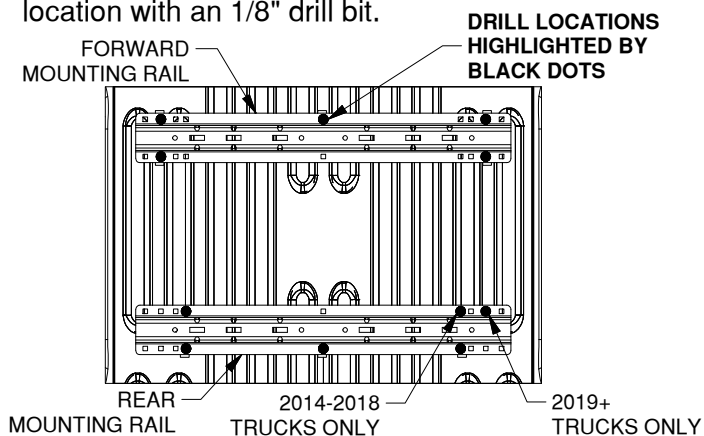

Figure A3: Detail view over bed, showing drill locations for the forward and rear mounting rails.
- 2. Mark hole locations.** While carefully ensuring the mounting rail does not move, use a center punch tool to mark the 5 drill locations on the forward rail. See Figure A3 for hole marking locations for this installation (rear rails will install on a later step). Once all 5 forward rail locations are clearly marked, move the mounting rail out of the way and drill each location with an 1/8" drill bit.
2. **Drill rear rail mounting holes.** Using the same method as used for the forward mounting rail, mark and drill the 1/8" holes for the rear mounting rail. Refer to "DRILL FORWARD MOUNTING HOLES" section, Step 2, page 2. Notice that the hole locations are slightly different than the forward rail, see Figure A3 (on the second page).
2. **Drill rear rail mounting holes.** Using the same method as used for the forward mounting rail, mark and drill the 1/8" holes for the rear mounting rail. Refer to "DRILL FORWARD MOUNTING HOLES" section, Step 2, on page 2. Notice that the hole locations are slightly different than the forward rail, see Figure A3 (on the second page).